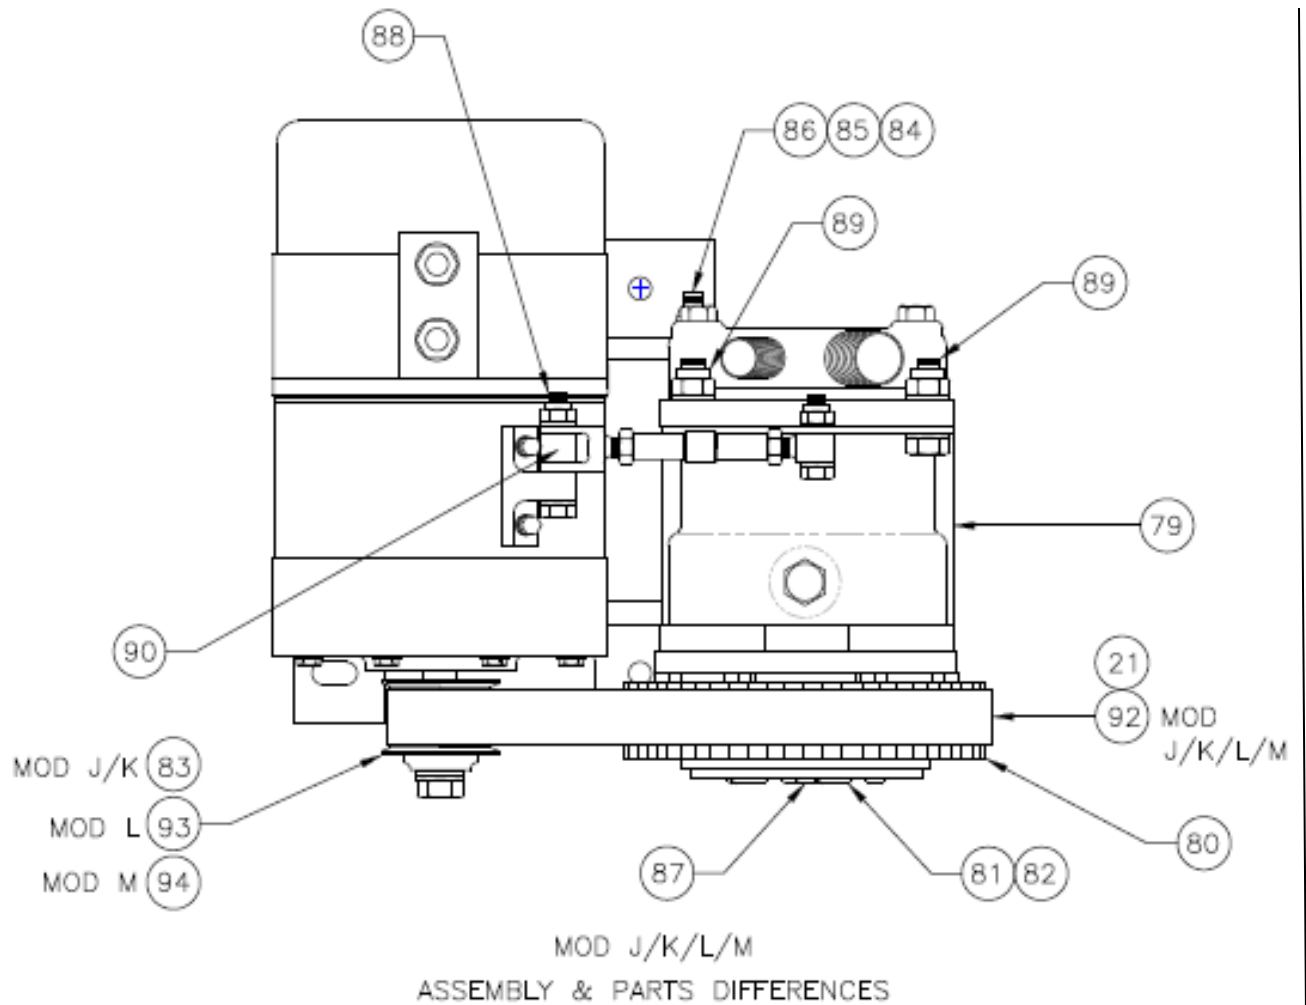
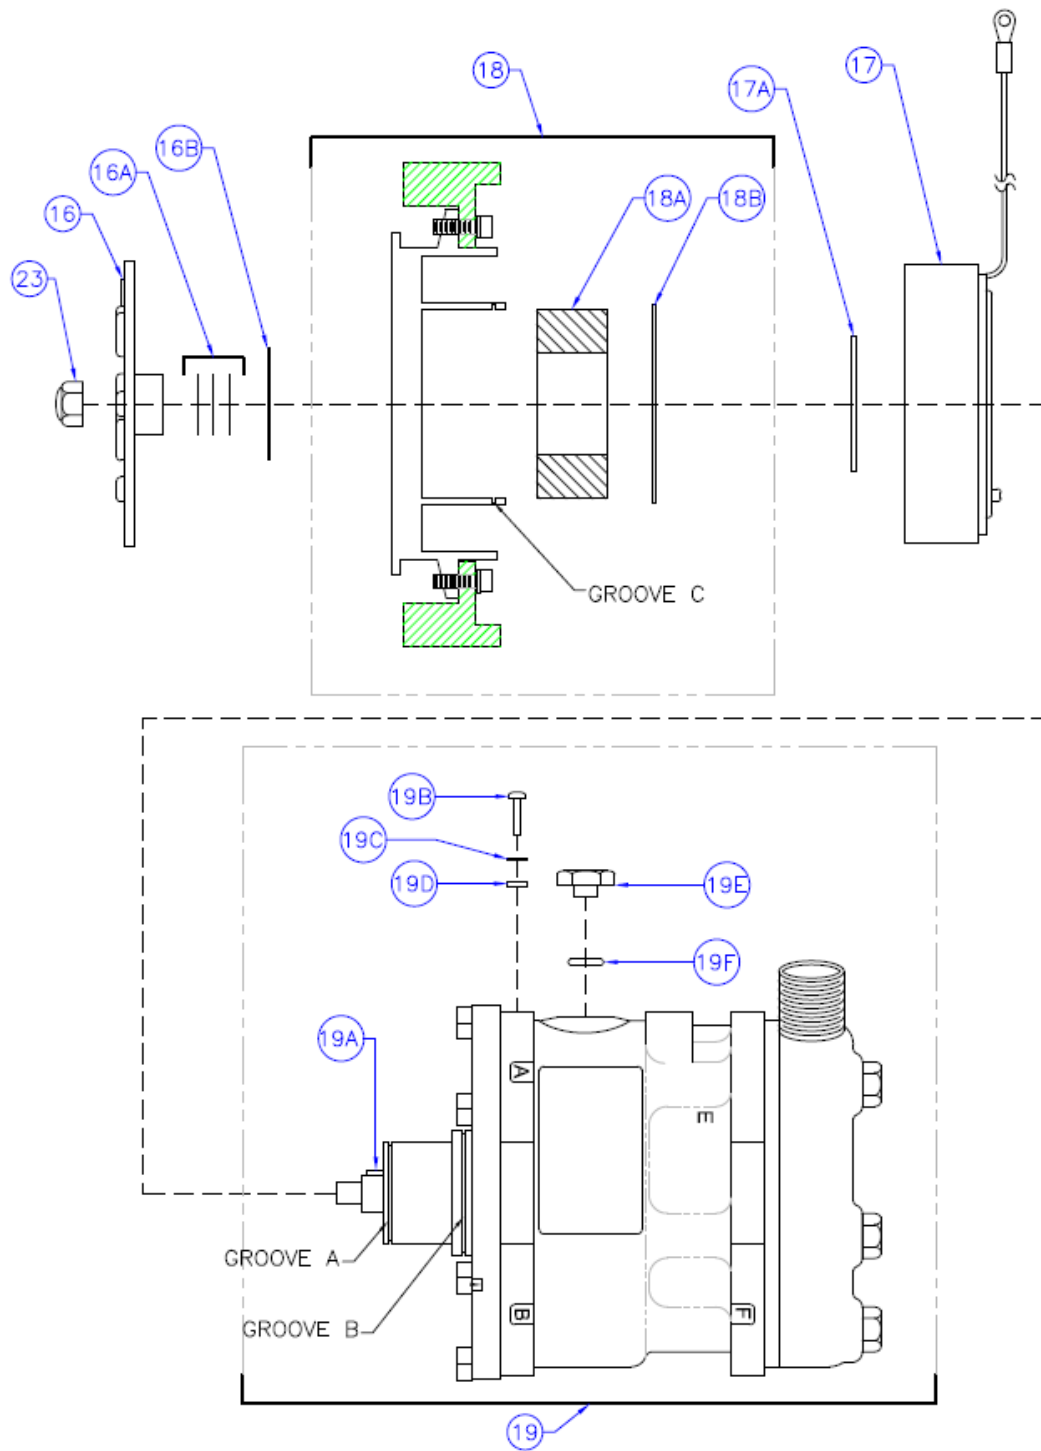

FIG. 6
FIG. 7
10.2 REVISION 2: Revise Section 3 to include Figure 7 and 8 items. Add Illustration in Section 3.2. Renummer Illustrations 11 & 12 to 12 & 13. Delete Section 8.3. Revise Figure 6 to show MOD L.
Renumber items in Figures 7 and 8. Add MOD L. Add Section 9.12. Bar in right margin marks revision locations.